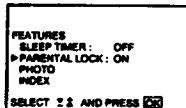

Fig. 20
- 5 Select "ON" with Δ or ∇ and press OK. (See Fig. 20.)